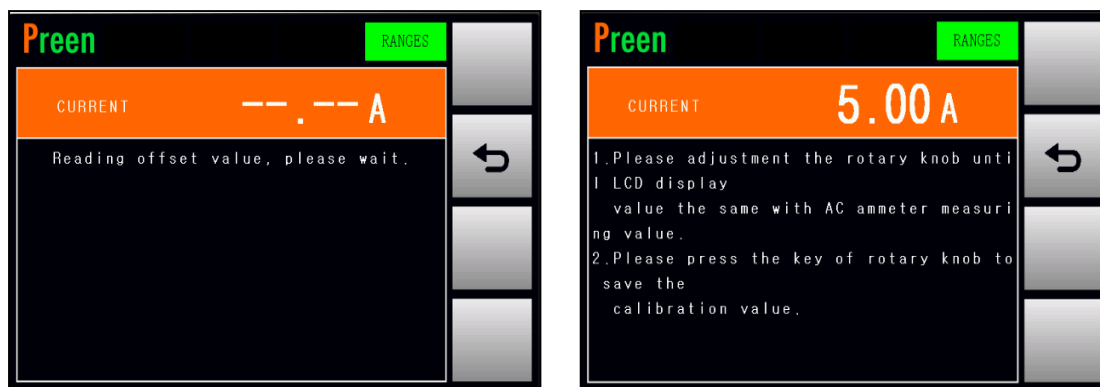

Figure 4-5-2 Enable the calibration of the HI-Range RMS current.
3. Press the output & reset button on the front panel to enable the calibration of the HI-Range RMS current (refer to Figure 4-5-2), and then the product will start to output the voltage which is closed to 100V.